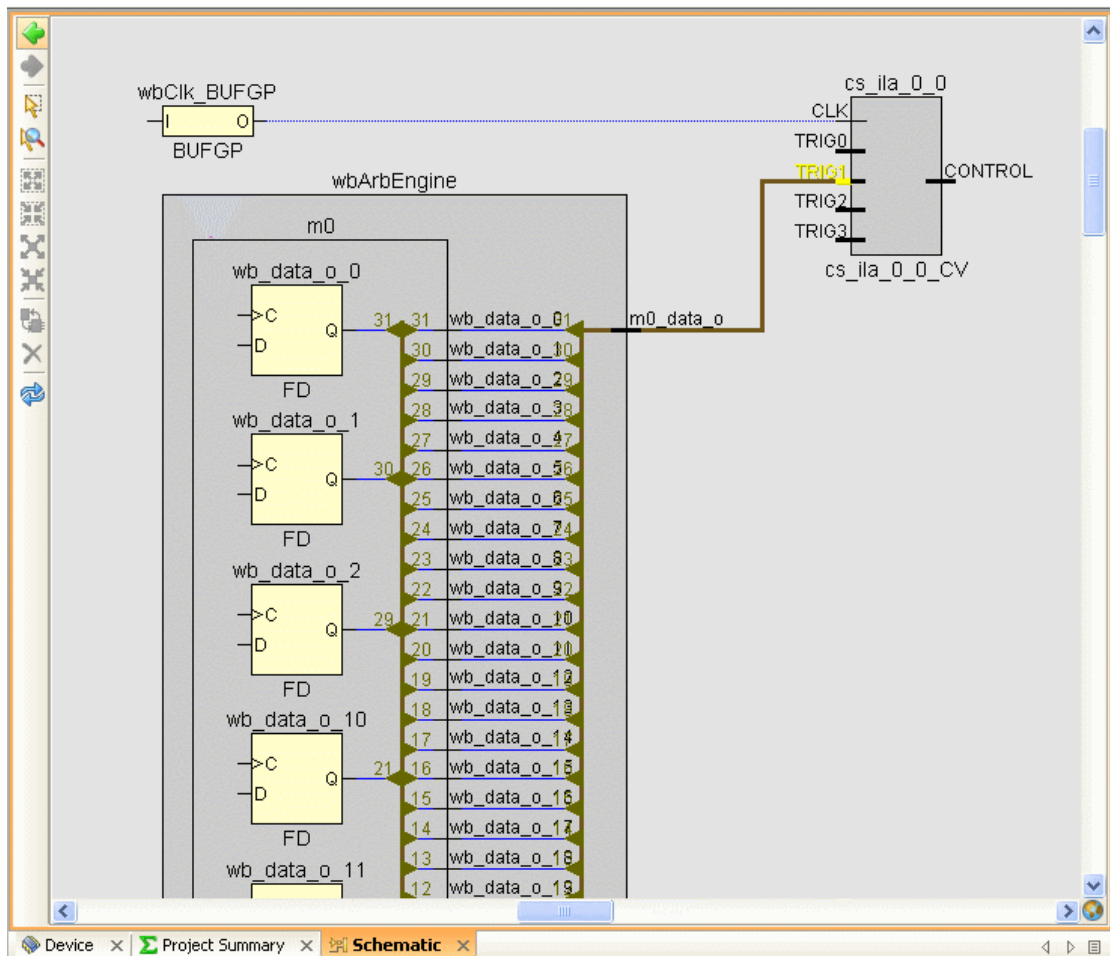

Figure 19: PlanAhead Expanded Schematic of TRIG1 Net
- 5-1-13.** Zoom in to view the expanded cs_ila_0_0 schematic (Figure 19). To Zoom in, click on the schematic diagram in the upper-left corner and drag the mouse to the lower right.